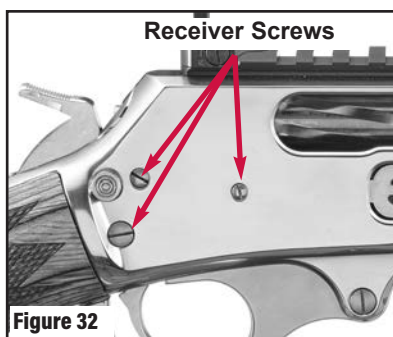

Figure 32
10. Tighten all receiver screws. There are three (3) screws on the shooter's right and one (1) screw on the shooter's left. Do not over tighten. See Figures 32 and 33. **Do not attempt to remove or loosen these screws.**